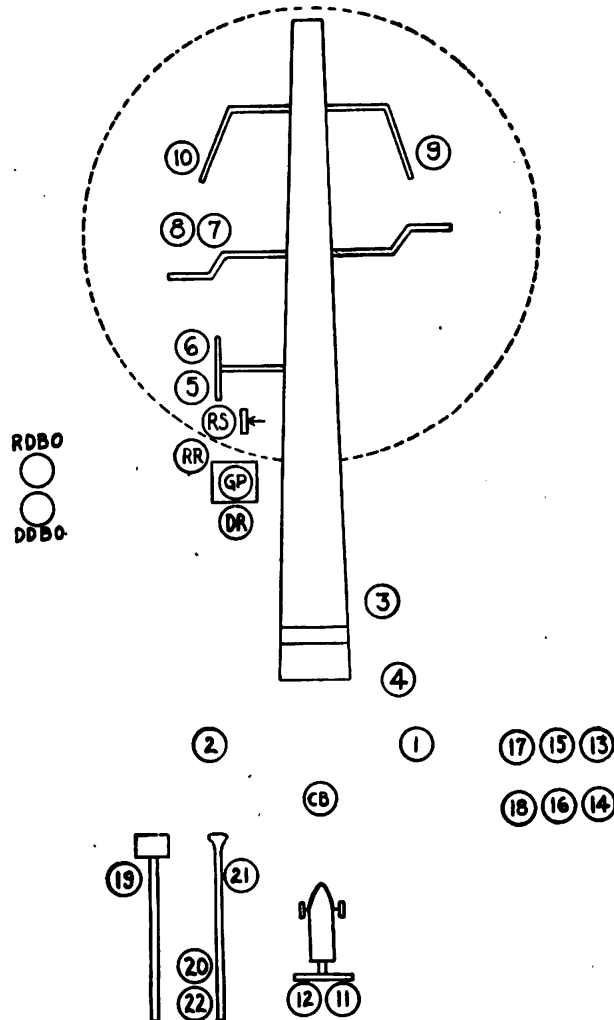

FIGURE 10.—Posts of gun squad for 12- and 14-inch guns on disappearing carriages.
Q. What are the posts of the gun squad of the 12- and 14-inch guns on disappearing carriages? **A.** See figure 10.
(1) Before firing, No. 3 assembles firing mechanism to the gun and sees that vent is clear and that primer seat is clean and unpitted.